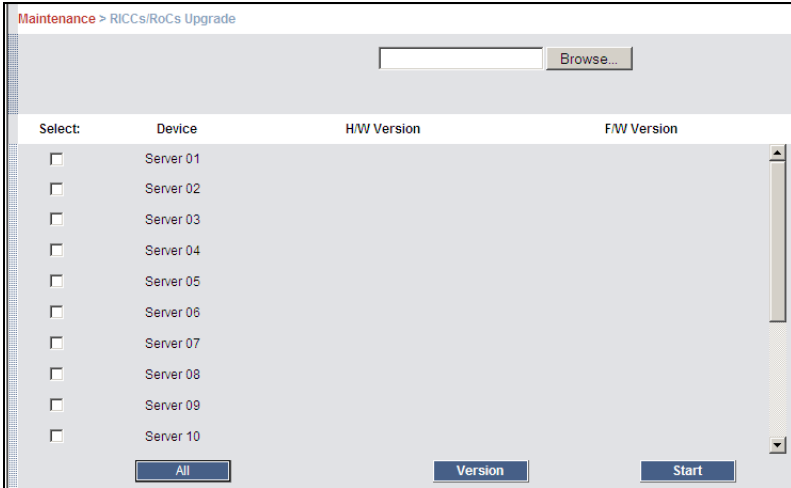

Figure 24 RICC/RoCs Upgrade
1. From the menu select RICC/RoCs Upgrade. The Upgrade window appears showing the current firmware version see Figure 24.